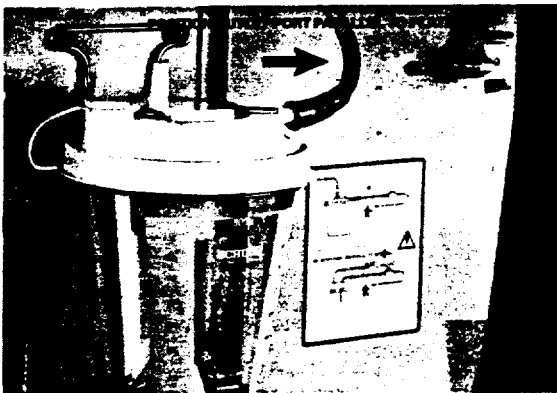

FIGURE 4.12 CHECKING THE SUCTION BOTTLE
1. Check that a clean suction bottle (reusable or disposable, Figure 4.12) is installed and properly connected in the Resuscitation Equipment Storage Compartment at the front of the warmer.
CAUTION: When installing the disposable **Suction Bottle**: to prevent the suction tube from being blocked or damaged, position the **Outlet Port** parallel to the plate (Figure 4.12).